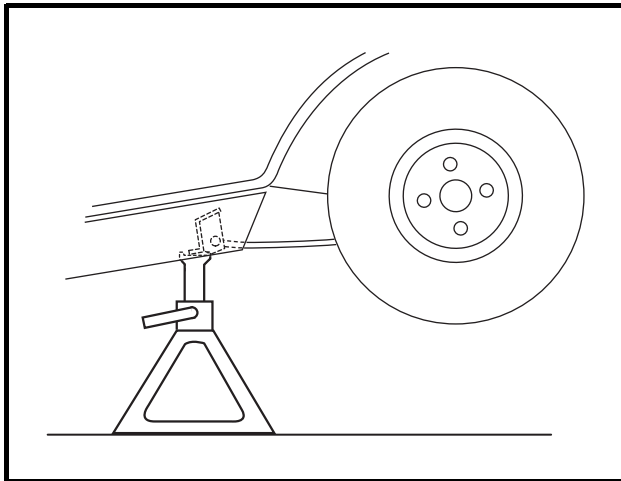

Figure 17-6 Vehicle Supported on Jack Stands
2. Place a floor jack under the transaxle and raise the rear of the vehicle. Position jack stands under the frame crossmember between the spring mount and the side stringer, just forward of each rear wheel. Lower the vehicle to let the jack stands support the vehicle (**Figure 17-6, Page 17-5**). See **WARNING "Lift only one end of the vehicle..."** in General Warning, Section 10, Page 10-1.